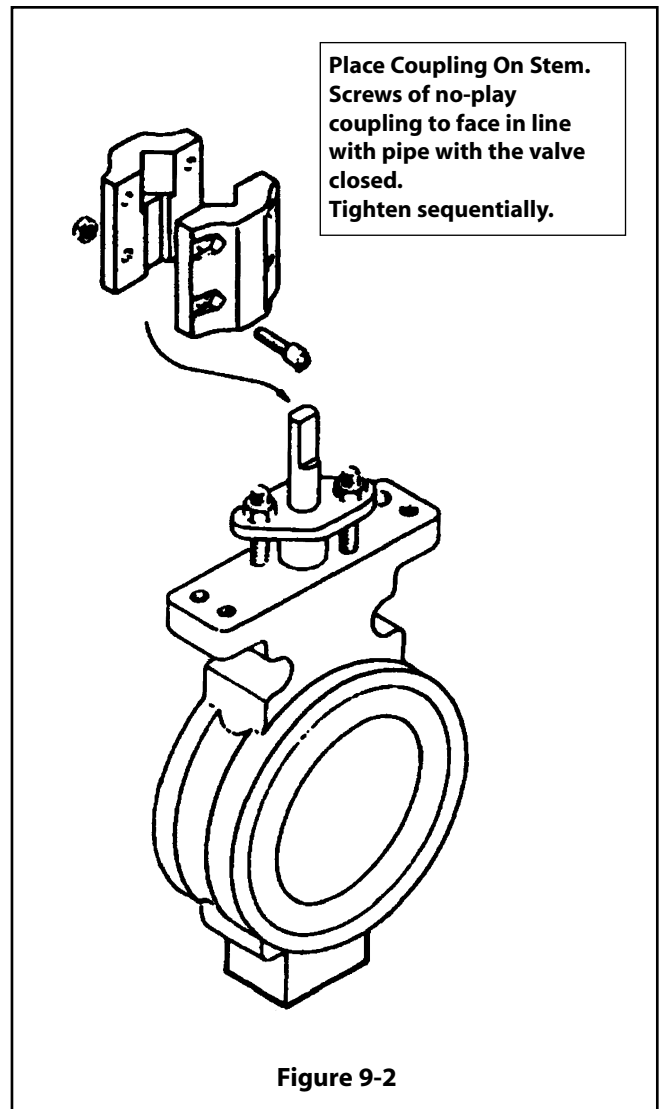

Figure 9-2
3. Place the coupling onto the valve stem. If the valve has a two-piece "no-play" bolted coupling, assemble the coupling loosely on the valve stem. Use socket head cap screws and lock nuts. **(See Figure 9-2.)**